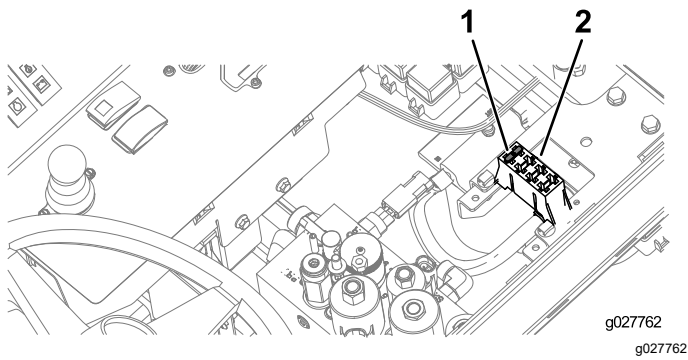

Figure 8
- Install the fuse into the fuse block (Figure 8).
4. Install the fuse into the fuse block (Figure 8).